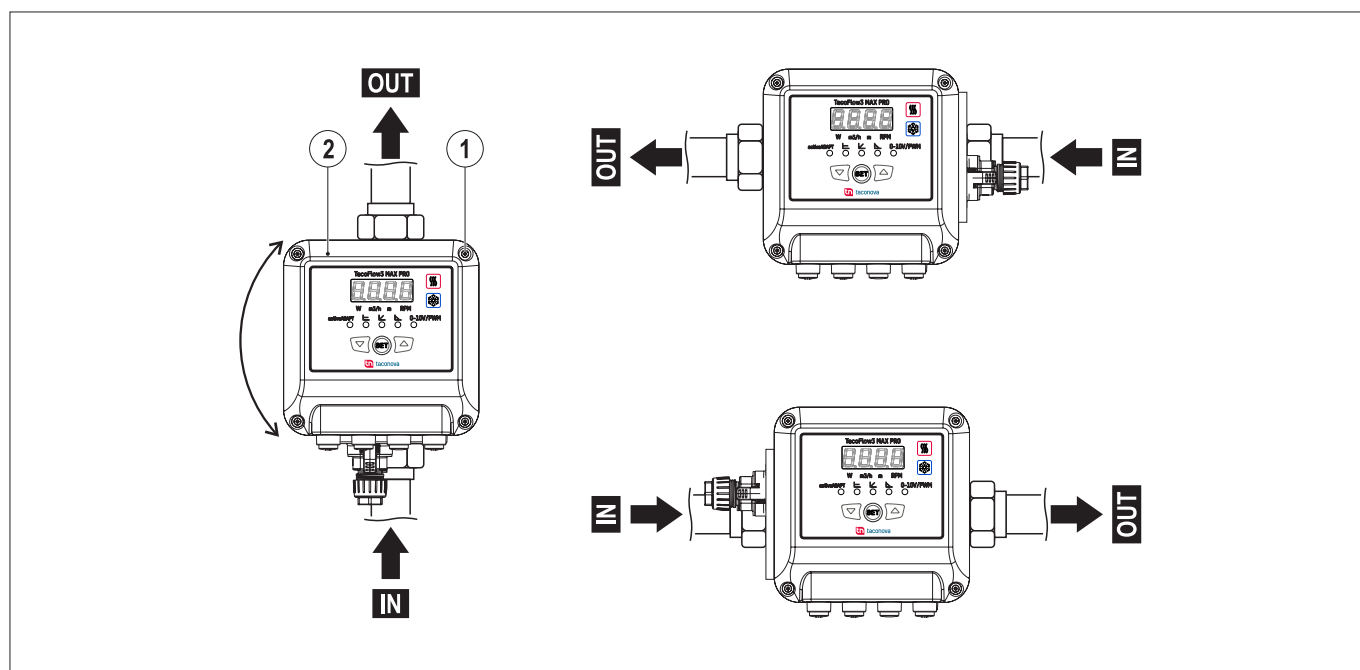

FIG. 8 (Motor body positions)
THE MOTOR BODY CAN BE ROTATED TO THE POSITIONS INDICATED IN FIG. 8.
- 1) Unscrew and remove the four motor cover screws (FIG. 8 - Ref. 1)
- 2) Rotate the motor cover (FIG. 8 - Ref. 2) to the desired position without removing it from the circulator body